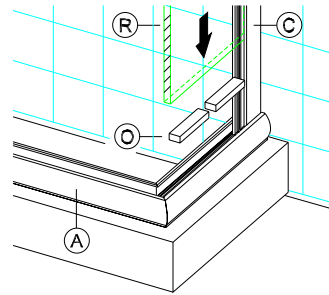

figure 4a
Insert glass support Setting Blocks (O) into the Sill cavity as shown in figure 4a. Set the Glass End Panel (R) on the Setting Blocks and slide Glass Panels a 1/2" into Wall Jamb (C). Hold panel in place by inserting a short piece of Glazing Vinyl (S) between the Glass Panel and the Wall Jamb, both inside and out.